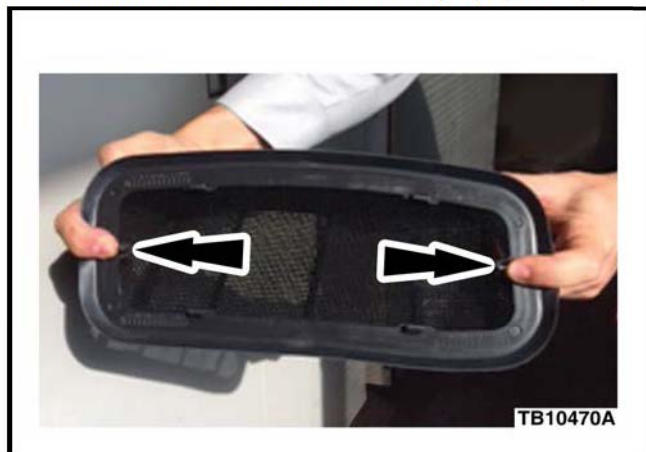

Figure 1 - Article 13-11-17
3. Install the new screen assembly. (Figure 1)